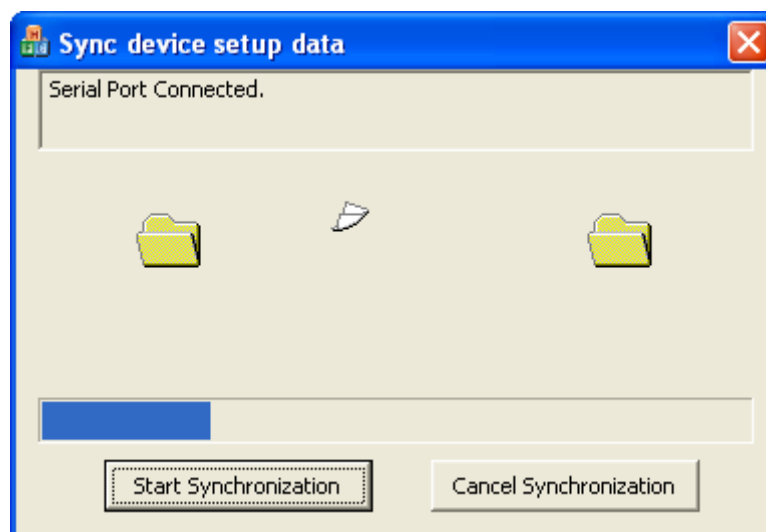

Figure 13 : Synchronizing device data
3. **Sync Device Data** dialog appears (Figure 13). Click **Start Synchronization**. The progress bar shows the status of data synchronization.